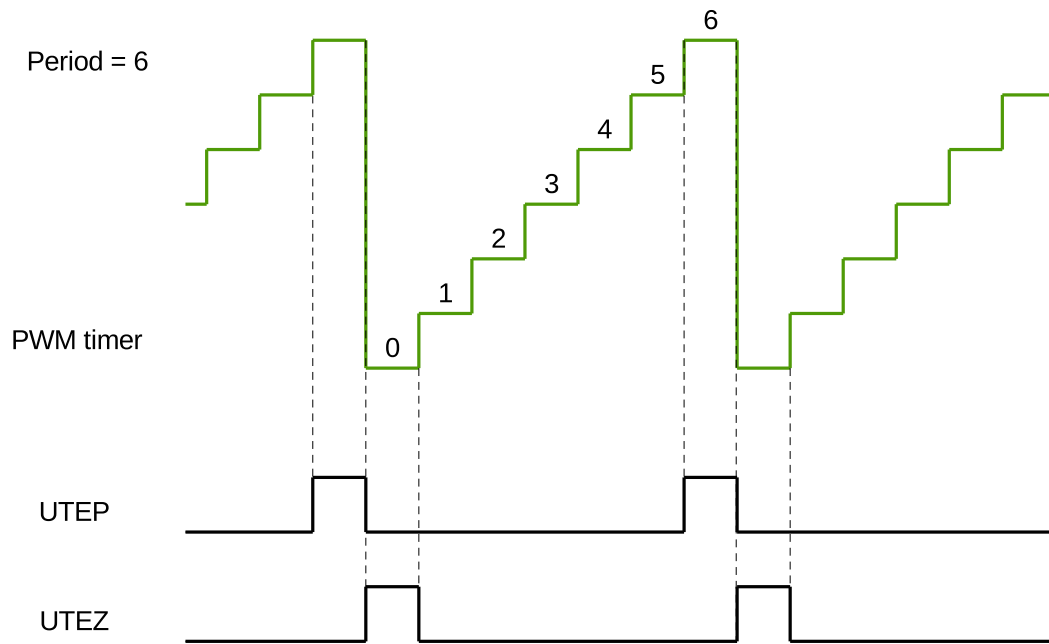

Figure 36.3-9. UTEP and UTEZ Generation in Count-Up Mode
Figures 36.3-9 to 36.3-11 show the timing waveforms of U/DTEP and U/DTEZ.
1. UTEP and UTEZ do not happen simultaneously. When the PWM timer is in Count-Up Mode, UTEP will always happen one cycle earlier than UTEZ, as demonstrated in Figure 36.3-9, so their action on PWM signals will not interrupt each other. When the PWM timer is in Count-Up-Down Mode, UTEP will not occur.